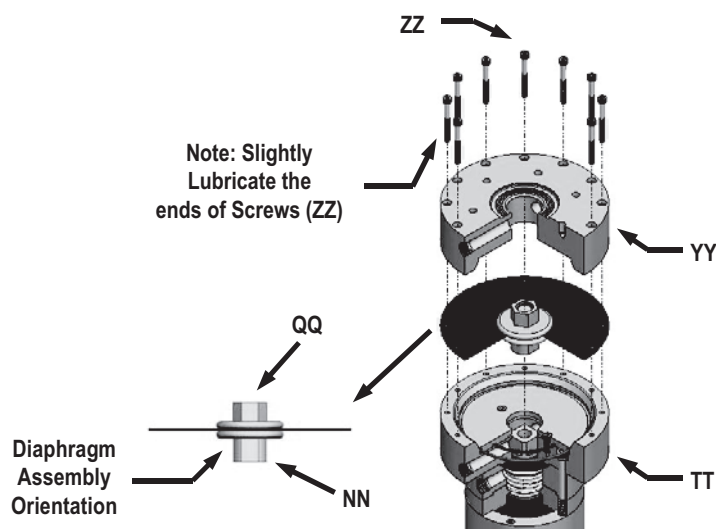

Figure 29
A. For a Low Gain Pilot (Figure 29), place Diaphragm Assembly #3 on top of the Lower Feedback Chamber (TT). Bolt Diaphragm Assembly #3 in between the Lower and Upper Feedback Chambers (TT and YY) with 12, 8-32 x 1 3/4" SHCS (ZZ). Move to Step 51.